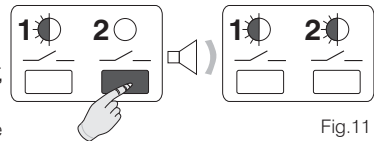

Fig.11
- Press and hold the **key 2** button until you hear one beep, then release it. Both LEDs flash. **Channel 2** is now ready to be paired with the "Master" chronothermostat (fig.11).